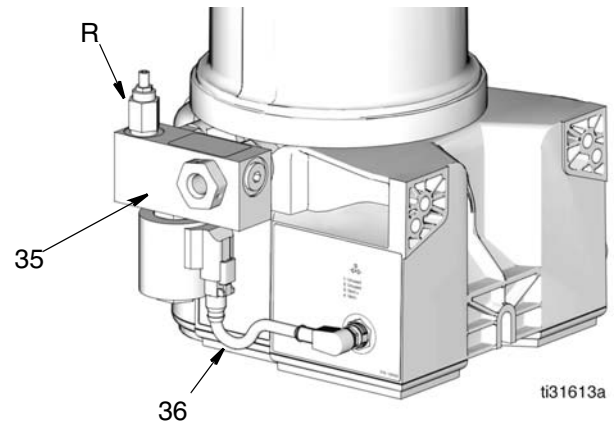

FIG. 18
Connect one end of the vent valve cable (36) (Graco Part No. 129801) to the vent valve connector on the pump. Connect the other end of the cable to the vent valve (35) as shown FIG. 18.
Pressure Relief Valve (FIG. 18, R)